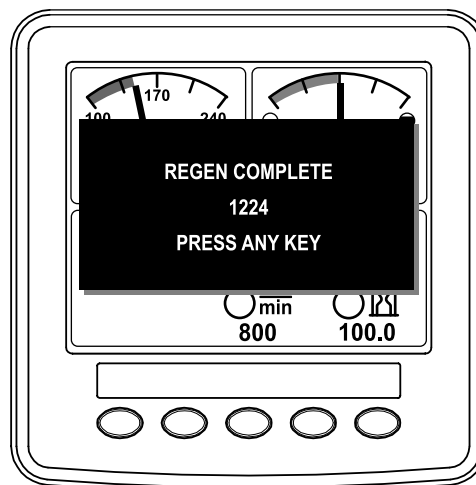

Figure 62
11. When the engine computer completes a parked or recovery regeneration, the InfoCenter displays ADVISORY #1224 (Figure 62). Press any button to exit to the home screen.